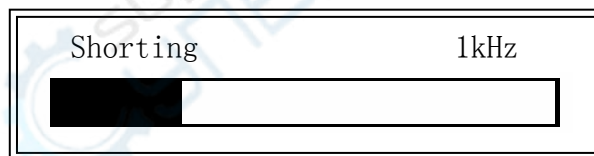

Figure 4-22. Short Correction Information
- 3) Press **ShSWP**. TH2816A will measure the short impedance (inductance and resistance) at all frequency points. Figure 4-22 shows the short correction information.